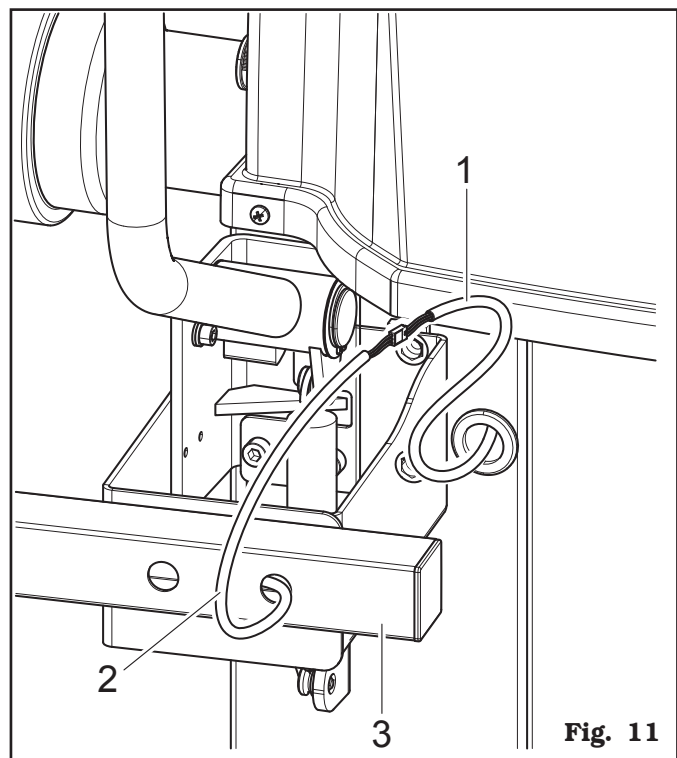

Fig. 11
4. Connect connector (**Fig. 11 ref. 1**) of the cable coming from inside the machine to connector (**Fig. 11 ref. 2**) of the cable coming from the gauge arm. Fit the section of the cable with the connectors inside the arm (**Fig. 11 ref. 3**).